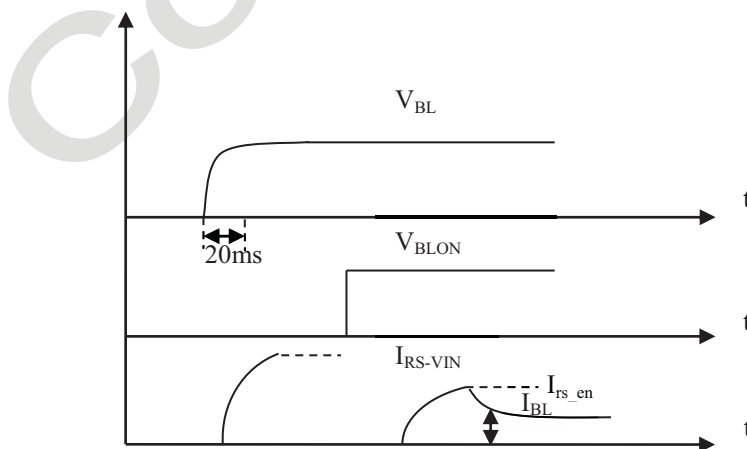

Fig. 3.4 The timing sequence diagram of inrush current measurement
(1) Dimming ratio = 100% (Max.) ($T_A = 25 \pm 5^\circ\text{C}$, Turn on for 45minutes), One converter's power consumption.,total converter is 4 Pcs.
(2) The measurement condition: VBL rising time is 20 ms. (V_{BL} from 10% ~ 90%), the sequence diagram is shown as Fig. 3.4.